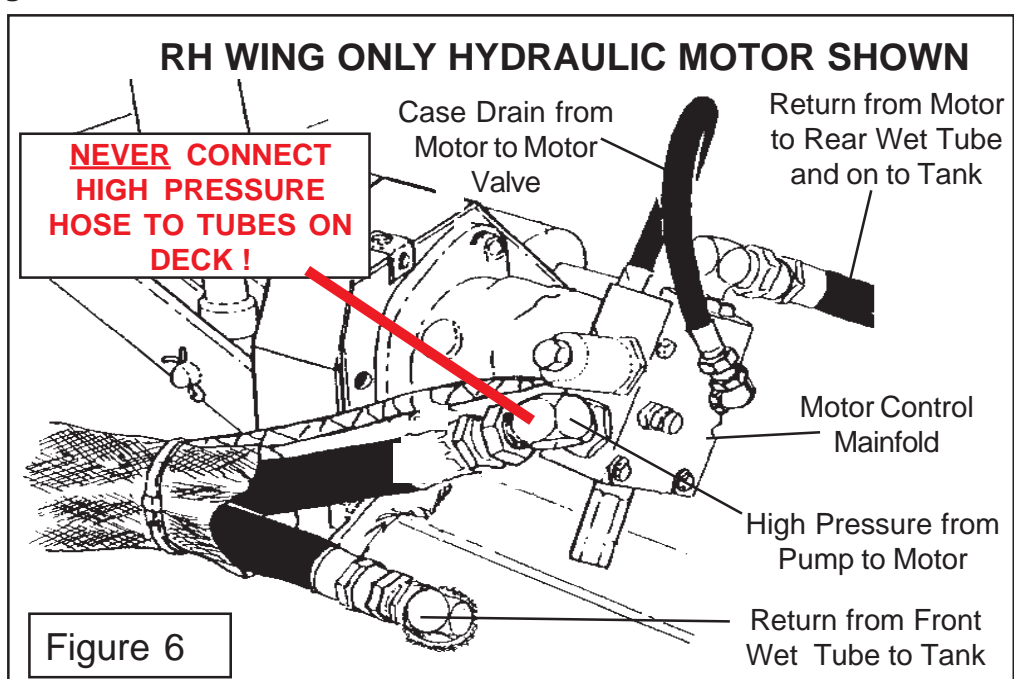

Figure 6
13. **Motor Control Manifold.** The motor control manifold bolts to the top of the motor. If manifold was removed it will need to be installed before the hoses can be connected. Always use new O-Rings on manifold. Manifold must be orientated as shown in figure 6 in order for hoses to connect correctly.
The Cross Over Hose at the outer end of deck should not have been removed, check it for condition and make certain it is still connected. Reconnect the hoses to motor. **CAUTION** Make certain that you **DO NOT** connect the high pressure hose to deck tubes. The high pressure **WILL DAMAGE TUBES ON DECK, ONLY** the return pressure from motor can be run through the deck tubes. (See Figure 6)